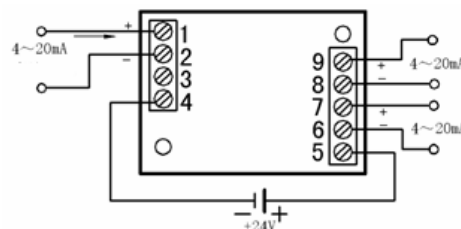

Figure 4, VZ27/IZ27 product wiring diagram
- ①Insert a M3 screw hole on the mounting plate according to the screw hole position shown in Figure 4;
- ②Insert the screw M3 to into hole and secure.